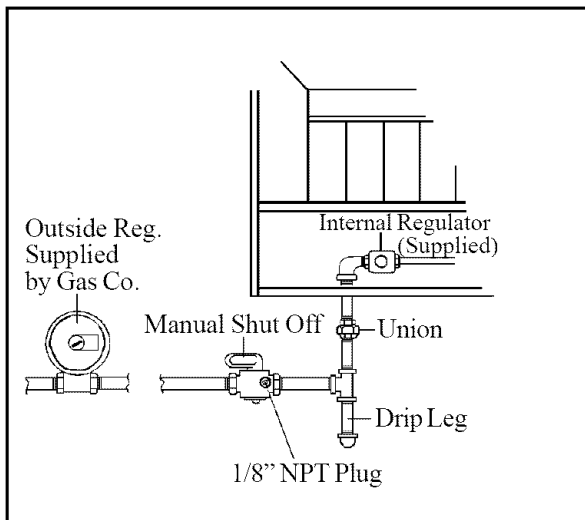

FIGURE 5
STEP 1. Make the gas connection between the manual shut off valve and regulator located inside heater cabinet. Hold regulator when tightening connection to prevent damage to regulator and internal tubing. See Figure 5 for completed installation.